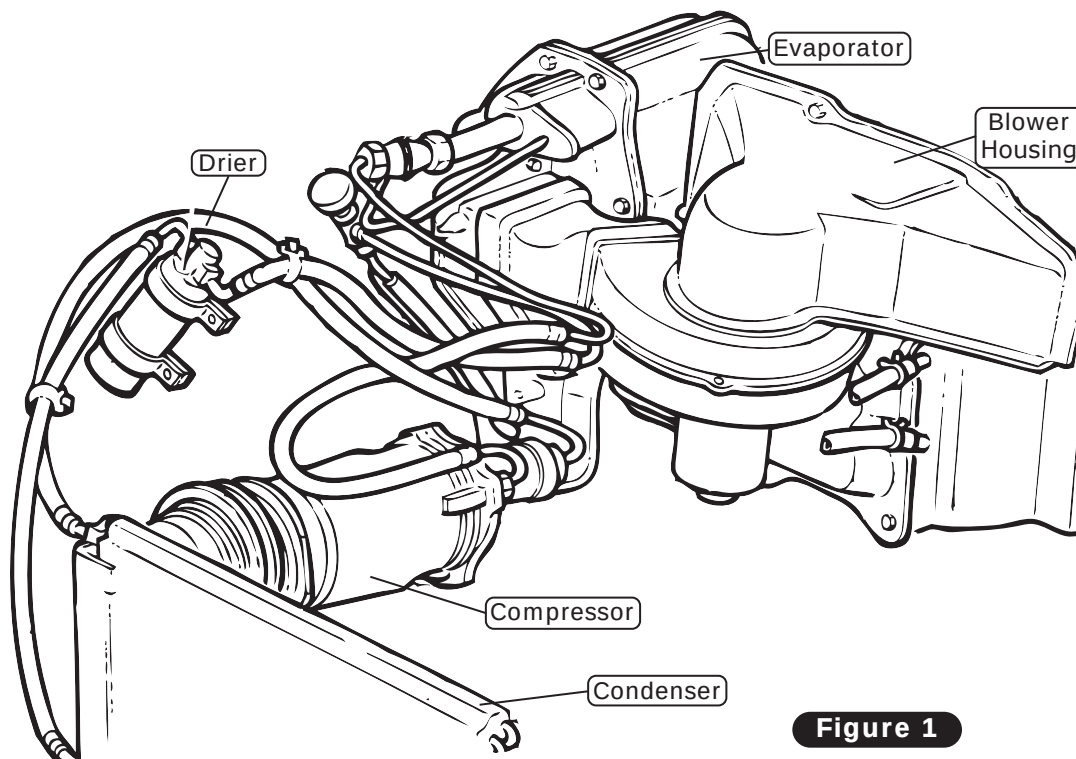

Figure 1
3. Remove the OEM condenser and drier (discard) (See Figure 1, below).
4. Remove the OEM A/C lines from the compressor to the evaporator (discard) (See Figure 1, below).
5. Remove the OEM compressor and bracket (discard) (See Figure 1, below).
7. Remove the OEM heater hoses, A/C hoses and hardlines (discard) (See Figure 1, below).
8. Remove the OEM A/C and heater wiring/vacuum harness molded grommet (See Figure 1, below).